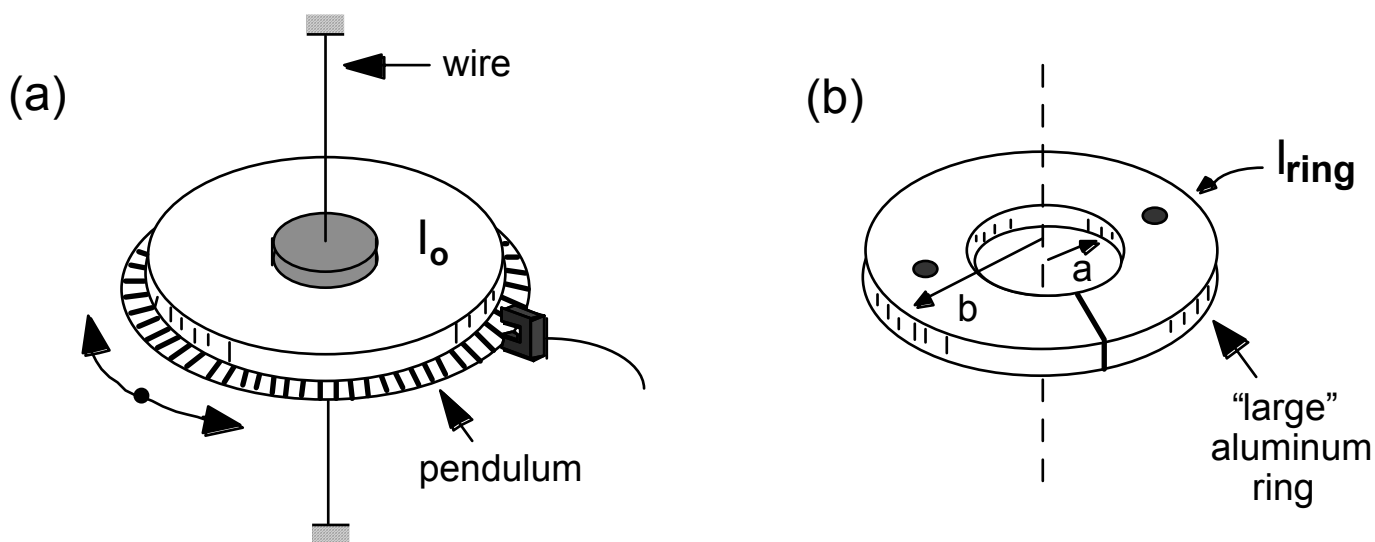
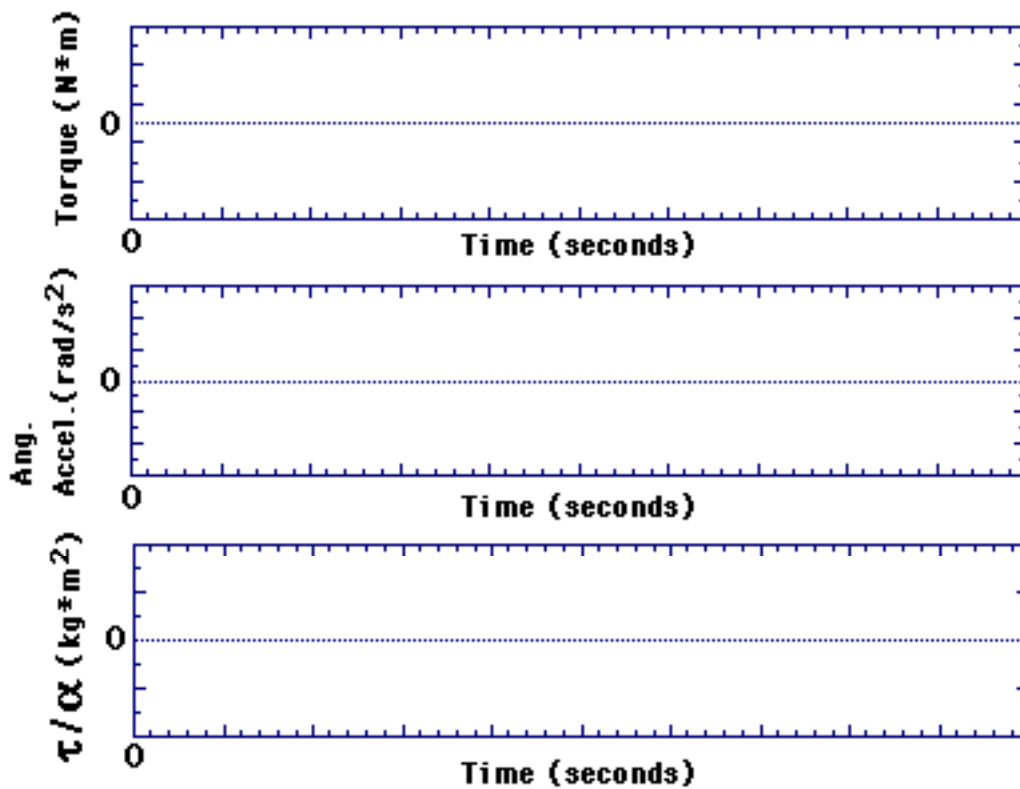
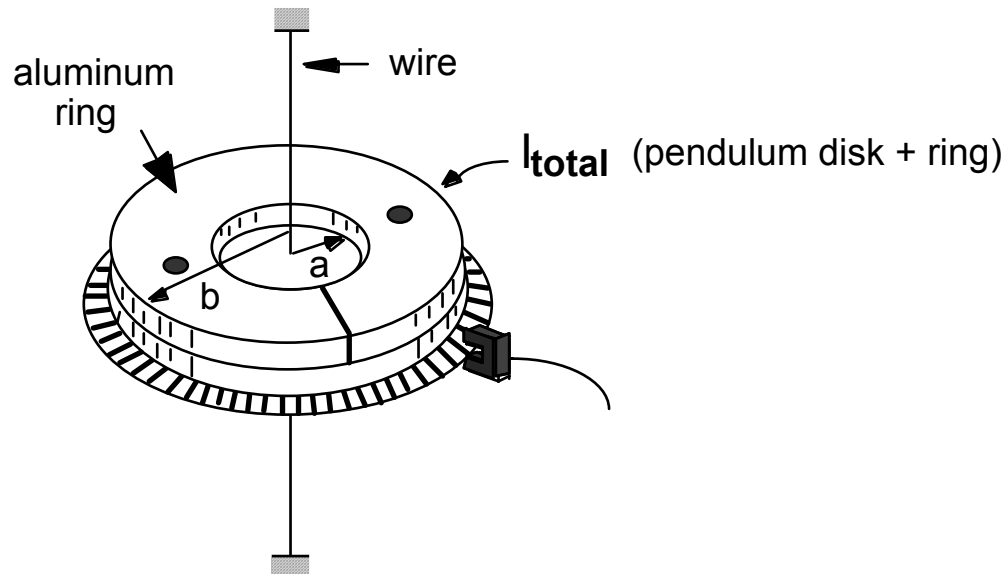
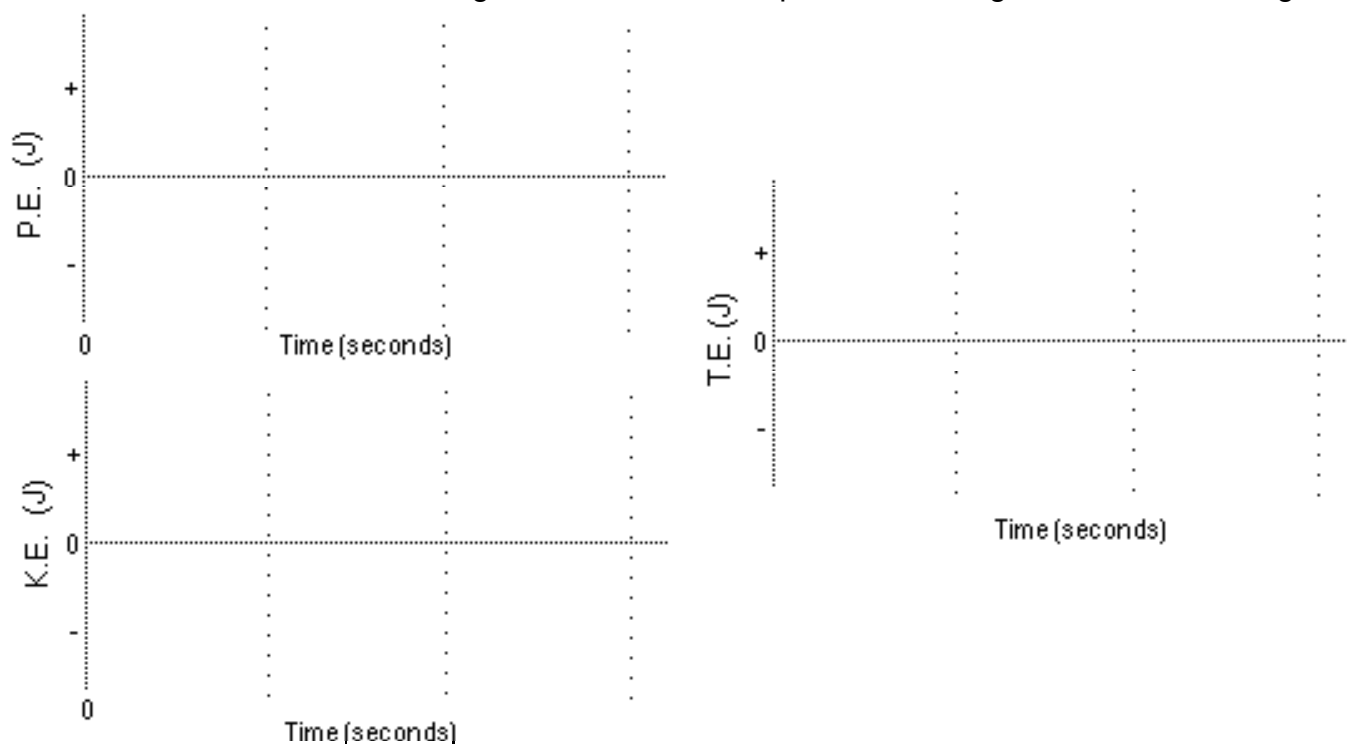

Figure 6. (a) Torsion pendulum and (b) large aluminum ring used in Activity 2
Figure 7. Predictions for Activity 2
Figure 9. Torsion pendulum setup for Activity 2
Figure 10. Predictions for Activity 3
Predictions: • Predict a value for the moment of inertia of the torsion pendulum, I_o , shown in Figure 6 (a). Record your prediction below and in Table 2. **HINT:** Estimate I_o by treating the pendulum in Figure 6 (a) as the sum of three parts:
- Measure the parameters associated with the "large" aluminum ring (the one *without* strings) illustrated in Fig. 6 (b), and predict a value for the ring's moment of inertia, I_{ring} . Record your prediction below and in Table 2.
- What do you predict is the total moment of inertia, I_{total} , if you placed the aluminum ring (Fig. 6 (b)) on the original torsion pendulum (Fig. 6 (a)). Record your prediction below and in Table 2.
- If you start the torsion pendulum oscillating by twisting it through a small angle and releasing, what do you predict you will observe for the magnitudes and time-dependencies of (a) the torque exerted by the wire, τ , (b) the angular acceleration of the pendulum, α , and (c) the ratio of these quantities, τ/α ? Sketch your predictions *using a solid line* on the appropriate graph in Figure 7 below. Pay particular attention to the following points:
- Now, suppose you place the aluminum ring shown in Figure 6 (b) on top of the torsion pendulum (see Figure 9), and start the pendulum oscillating. Sketch (*using dashed lines*) in Figure 7 your predictions for the torque exerted by the wire, τ , the angular acceleration of the pendulum, α , and the ratio τ/α . Emphasize the differences you expect compared to the previous situation (i.e., without the ring), and label specific predicted magnitudes where possible.
- Start with the torsion pendulum *without* the ring, as shown in Figure 6 (a).
- Place the aluminum ring onto the pendulum as shown in Figure 9. Make sure that you “seat” the two holes in the ring on the two protruding knobs on the top of the pendulum.
- Consider your results from the second experiment (pendulum + aluminum ring in Figure 9) in Activity 2, which should now be in Data A. What were the contributions to the total energy while the torsion pendulum was oscillating? Write mathematical expressions if possible.
- Sketch in Fig. 10 your predictions for the kinetic ($\frac{1}{2}I_{\text{total}}\omega^2$), potential ($\frac{1}{2}k\theta^2$), and total energies while the torsion pendulum in Figure 9 was oscillating.